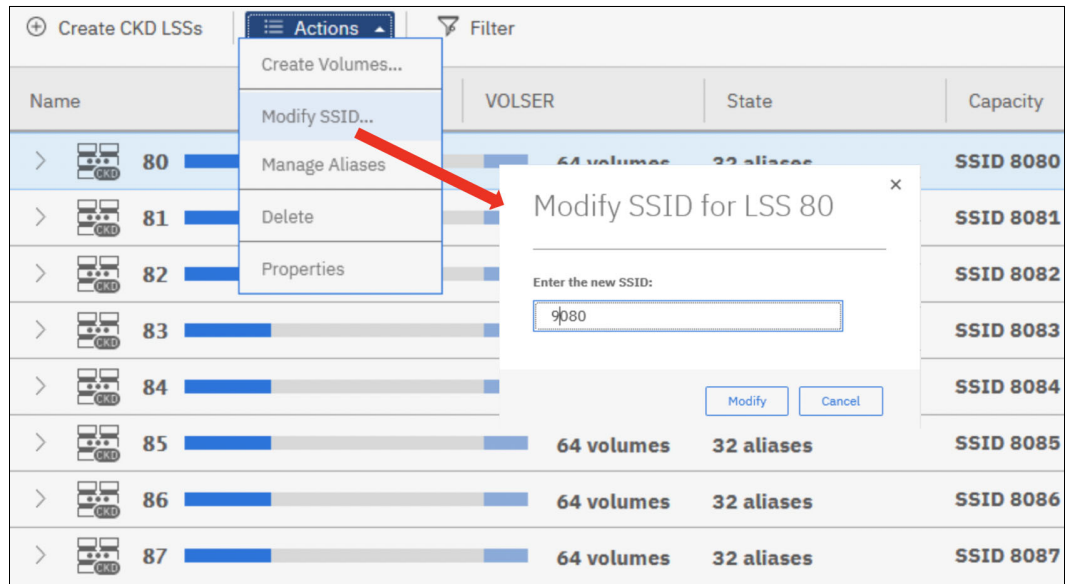

Figure 9-72 Modifying the CKD LSS SSID
- The unique SSID for each LSS is automatically determined by combining the SSID prefix with the ID of the LSS. The SSID can be modified if needed, as shown in Figure 9-72.